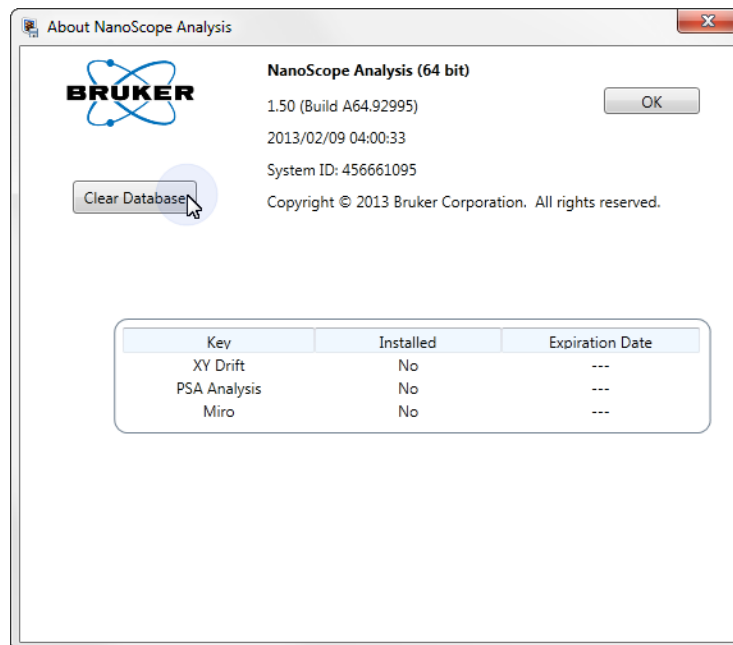

Figure 4.14d: Clear Database
1. Click **Help > About NanoScope Analysis** to open the **About** window, shown in Figure 4.14d.